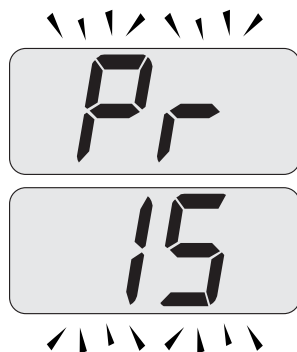

Fig. 7.18
- Scroll the various parameters using keys 12 or 13 until the letters **Pr** that alternate with code **15** are displayed on the LCD display, indicating that "parameter 15"(Fig. 7.18) has been activated.
- Press keys 11 and 12 (Fig. 7.16) at the same time to exit without changing the value (return to the parameters list Fig. 7.18)